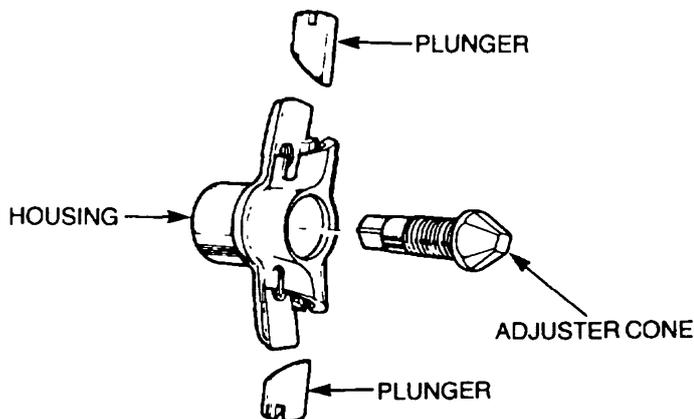

Figure 131 Adjuster Exploded View
- i. Remove the cone from the housing (Figure 131).